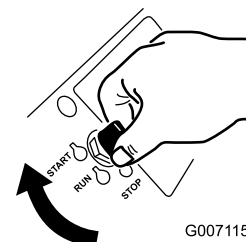

Figure 21
4. Turn the ignition key to the Start position (Figure 21). When the engine starts, release the key.